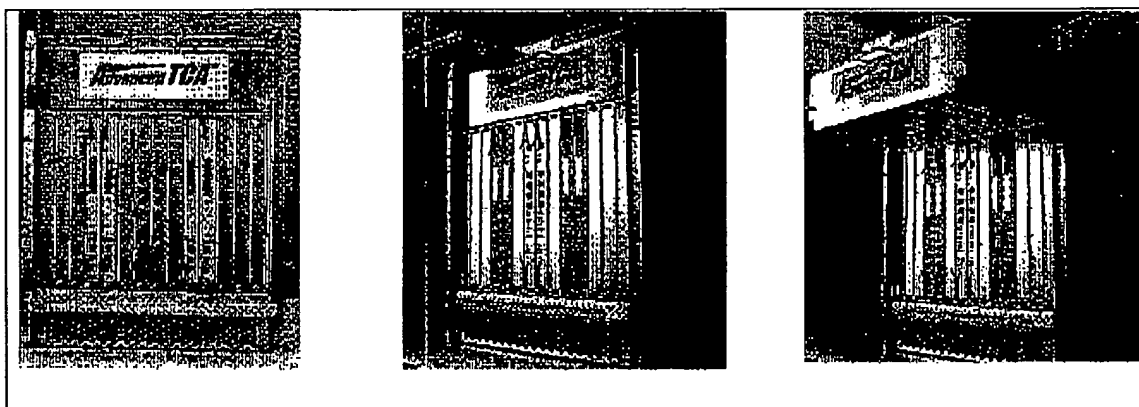
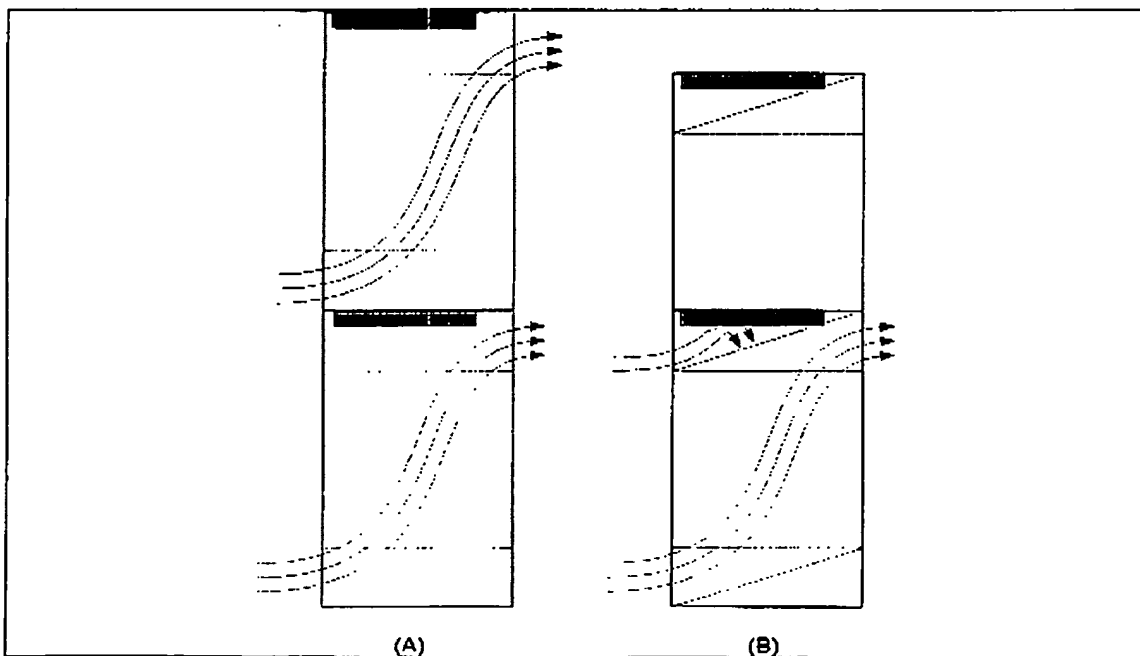

Figure 1. Current ATCA chassis with two CMMs
Figure 2. (A) Air flows through independent plenum for 14U system, (B). CMMs blocks air for shared plenum in 10U
The current method (see Figure 1) has CMMs mounted under the top of the chassis for 12U and 14U system. But a standard telecommunication server rack is 42U~45U and for high density chassis requirement, four chassis in a rack configuration or 10U chassis form factor is needed. In Intel's 10U shared plenum chassis, current CMM configuration is not applicable because of the mechanical/airflow interference.
Option2 for 10U chassis CMM configuration (fig2) solved the above problem, but it is not front serviceable.
The main configurations of the invention are described in Figures 1 and 2:
**Explanation.** All current ATCA and Flexi-Server chassis use single fan tray modules (shown in Figure 1) to cool the blade rack in the chassis (shown in Figure 2). These fan trays have an array of three fans, plus an array of three backup fans. The new dual fan tray module configuration for 10U ATCA produces a flexibility to design the CMM is the shelf management. Having dual fan tray modules offers these strong advantages over the current design:
Closest art is described as fig.1 and the differences are as above.